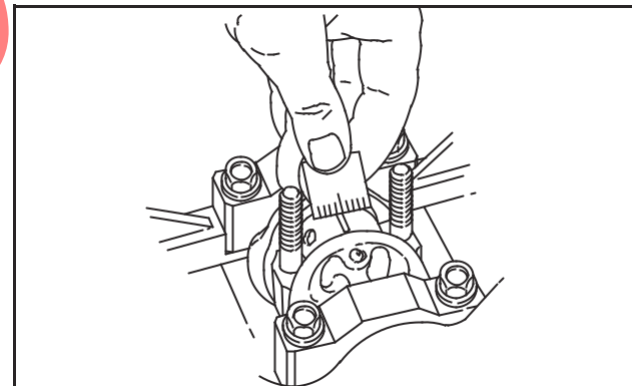

Fig. 9 – Measure Clearance
3. Remove the connecting rod cap. Measure the plastigage at its widest point, Fig. 9. If the clearance is not within specification, replace the bearings.